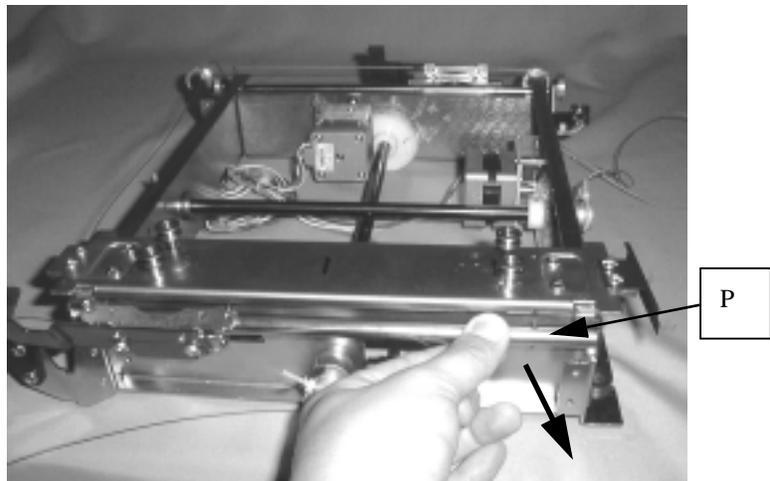

FIGURE 14-4
- Push the X-guide bar (P) slightly downward in the arrow direction as shown in Fig.14-4.